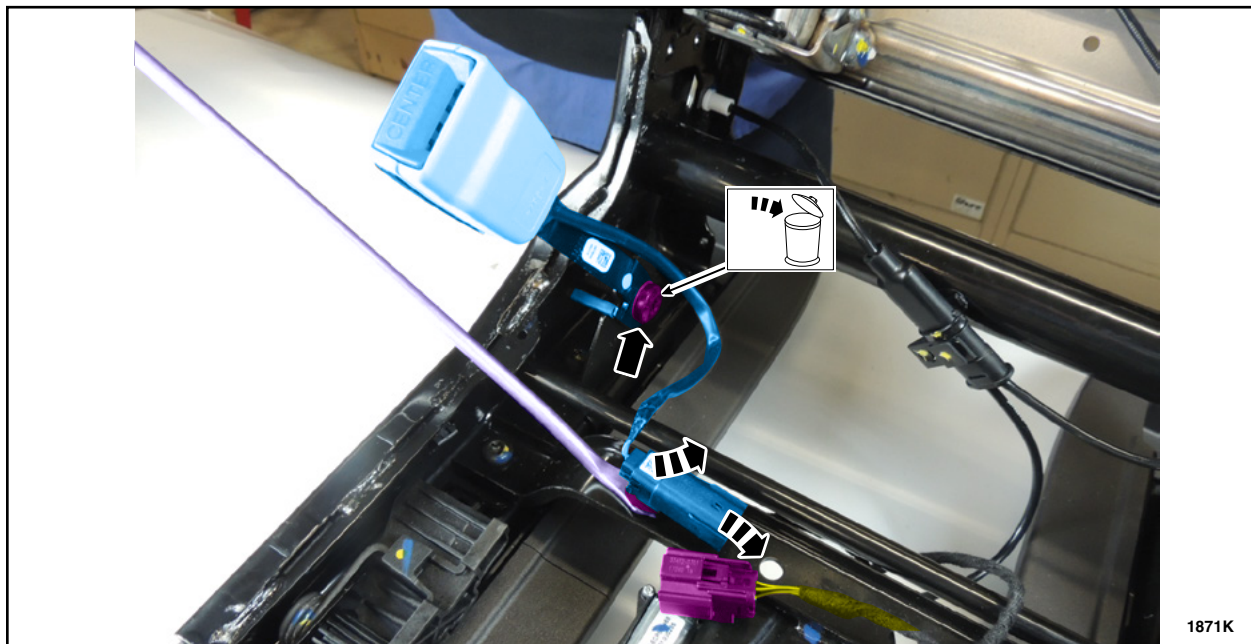

FIGURE 11
12. Detach the push pin retainer and disconnect the second row center seatbelt buckle electrical connector. See Figure 11.
See Figure 11.
19. Using a *new* retainer, install the seatbelt buckle. See Figure 11.
20. Connect the seatbelt buckle electrical connector and attach the push pin retainer. See Figure 11.